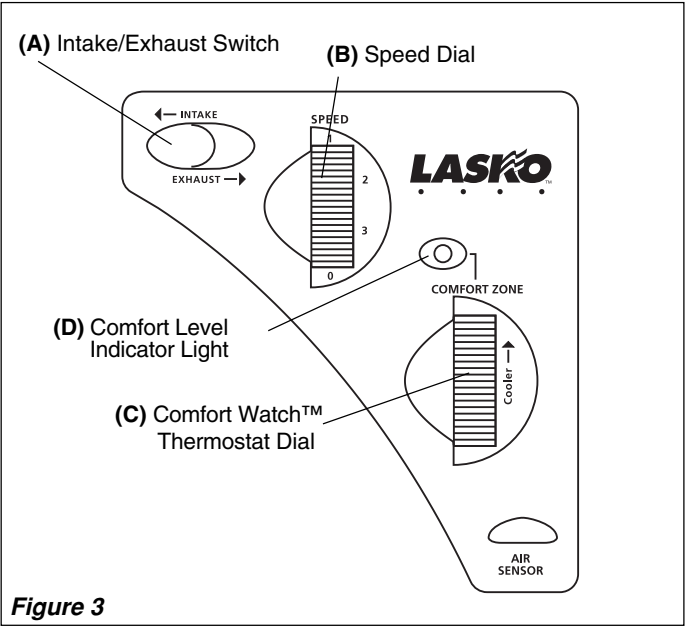

Figure 3
- 2. Set the Intake/Exhaust Switch (A) to desired setting. The Intake Setting brings fresh outside air into the home, and the Exhaust Setting pulls indoor air out of the room. Sliding the switch to the left or right will reverse the direction of the Fan Blade to blow air inside or out. (Figure 3)
- 3. Using the Speed Dial (B), set the desired Fan Speed.
- 4. Adjust the Comfort Watch™ Thermostat Dial (C) so that the Fan cools to a comfortable level. The Comfort Watch™ Thermostat will automatically turn the Fan off and on as the room temperature changes.
- 5. The Comfort Level Indicator Light (D) will come on to indicate the desired temperature range has been achieved.